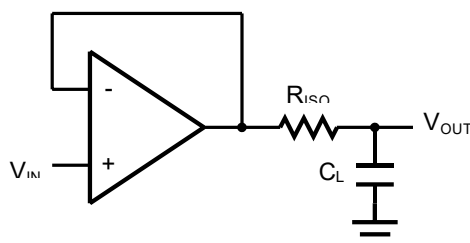
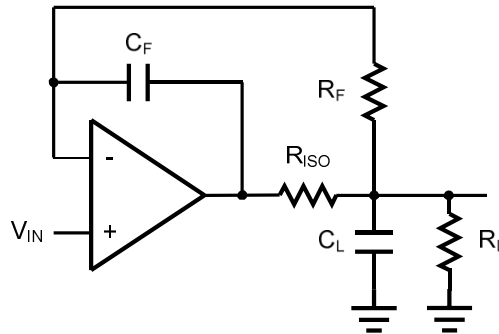

Figure 2. Indirectly Driving a Capacitive Load Using Isolation Resistor
Figure 3. Indirectly Driving a Capacitive Load with DC Accuracy
The HGV805X family is optimized for bandwidth and speed, not for driving capacitive loads. Output capacitance will create a pole in the amplifier's feedback path, leading to excessive peaking and potential oscillation. If dealing with load capacitance is a requirement of the application, the two strategies to consider are (1) using a small resistor in series with the amplifier's output and the load capacitance and (2) reducing the bandwidth of the amplifier's feedback loop by increasing the overall noise gain. Figure 2. shows a unity gain follower using the series resistor strategy. The resistor isolates the output from the capacitance and, more importantly, creates a zero in the feedback path that compensates for the pole created by the output capacitance.
The circuit in Figure 3 is an improvement to the one in Figure 2. RF provides the DC accuracy by feed-forward the VIN to RL. CF and RISO serve to counteract the loss of phase margin by feeding the high frequency component of the output signal back to the amplifier's inverting input, thereby preserving the phase margin in the overall feedback loop. Capacitive drive can be increased by increasing the value of CF. This in turn will slow down the pulse response.